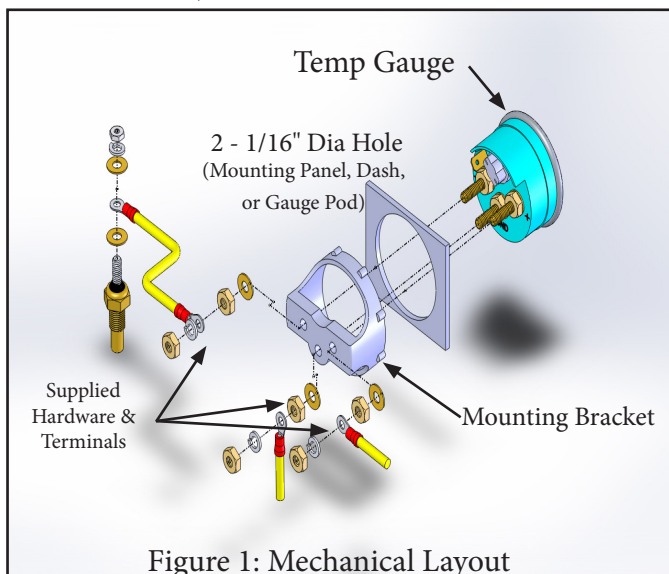

Figure 1: Mechanical Layout
**Gauge pod:** Gauge will fit into 2-1/16" gauge pod hole. Position gauge in mounting hole. Install mounting bracket, nuts and lock washers in position. (See Fig. 1) Install one brass flat washer, one lock washer and one nut on each stud.